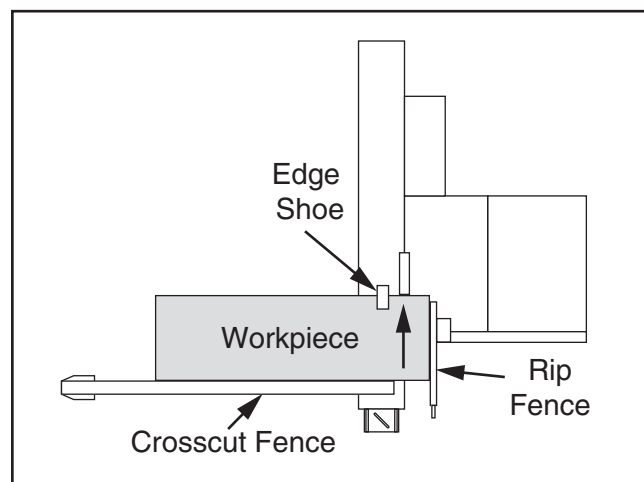

Figure 111. Crosscutting using rip fence as a cut-off gauge.
When set up properly, the crosscut fence can support workpieces while using the rip fence as a cut-off gauge, as shown in **Figure 111**.
1. Install crosscut fence in rear position of crosscut table, as shown in **Figure 111** on **Page 54**.